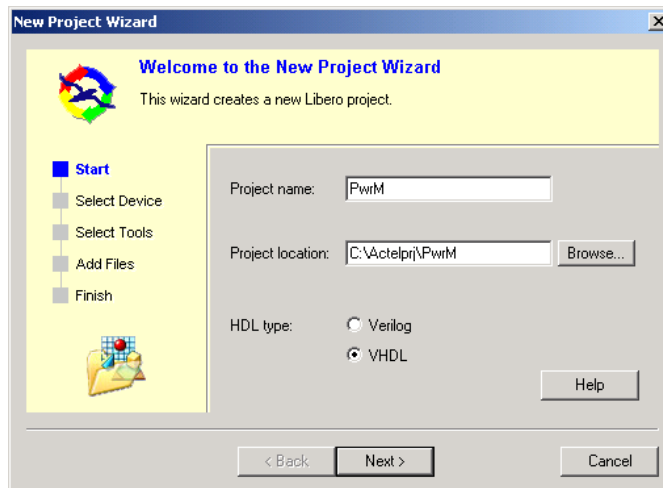

Figure 1-3. Create a Libero IDE Project
3. Enter **PwrM** in Project Name field, select HDL type as VHDL (the sample Libero IDE project is in VHDL) or Verilog, then click **Next** (Figure 1-3).